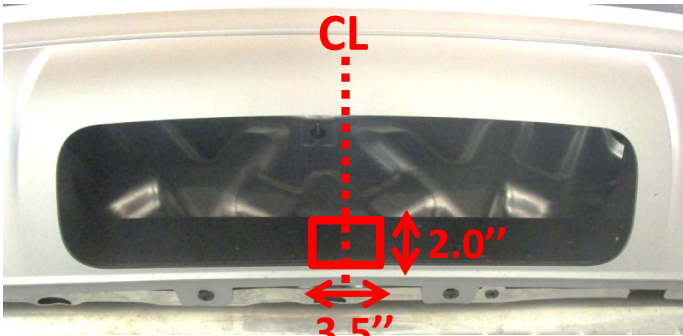

Figure 4
5. **Trim fascia** – Using tape and utility knife, cut a notch in the lower part of fascia as shown in **Figure 4**. **DO NOT** cut the wiring behind center lower fascia.